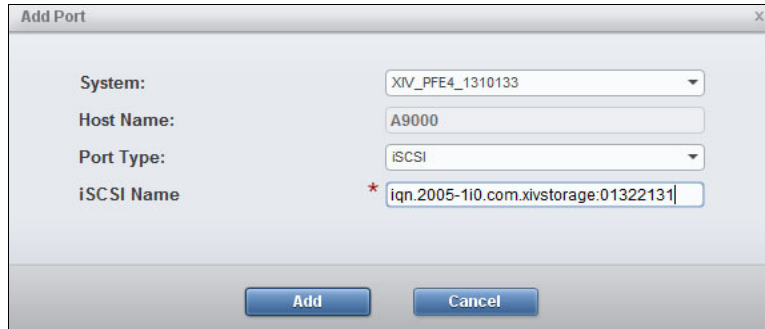

Figure 8-8 Adding the iSCSI port connections for the data migration host
- On the Add Port window, select **iSCSI** and enter the iSCSI qualified name, as shown in Figure 8-8.